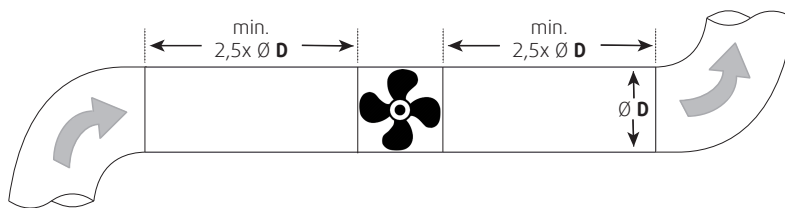

Fig. 1 Straight ducts
- ◆ Ensure a smooth and constant air flow to the device. Ensure a free exhaust. See Fig. 1 *Straight ducts*, page 7.